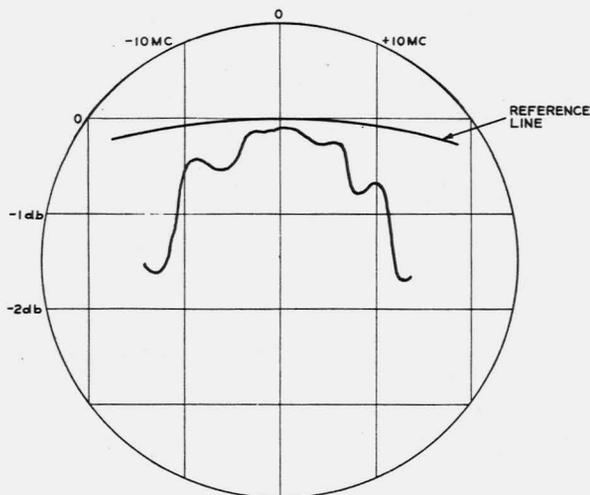

Fig. 23 - Typical Output Impedance Characteristic of First and Second Stages of Transmitter Amplifier
- (7) Reduce AT5 to such a value that the loss of AT5 plus the 50 feet of line is equal to 4.5 db.
- (8) Adjust the plate tuning and coupling screw to reduce the ripples to a minimum at the center frequency. A typical picture is shown on Fig. 23.
- (9) Adjust input impedance as described in 9.14.
- (10) Set AT4 to 20 db and repeat (4) through (8).
Requirement: The ripples should be minimum at the center frequency as shown in Fig. 23.